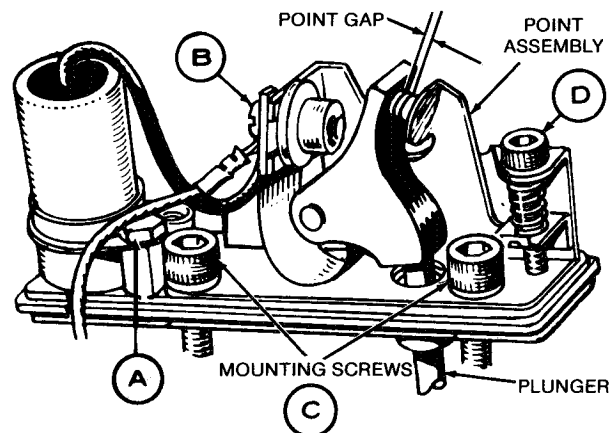

FIGURE 28. TIMING AND POINT GAP ADJUSTMENT
3. Remove the condenser (screw A) and detach the condenser lead and coil lead (screw B). See Figure 28.
- Use an allen head wrench to adjust set screw D to obtain the gap setting specified in the Specifications section. Measure the point gap with a flat thickness gauge (See Figure 28).